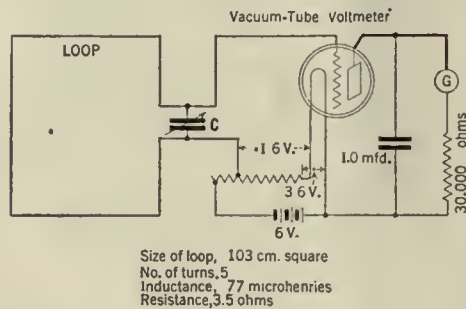

FIG. 1
A practical little summary of work in field intensity determinations is the pamphlet by R. O. Cherry, prepared under the direction of Professor T. H. Laby, on "Signal Strength Measurements of 3LO, Melbourne." The measuring set consisted of a loop, a tuning condenser, and a thermionic voltmeter to measure the potential induced in the loop by the broadcasting station. The voltmeter was an instrument of the Moullin type, manufactured by the Cambridge Instrument Company, using plate rectification to cover a scale of 0-1.5 volts. Cherry's pamphlet does not show the voltmeter circuit, but this has been reproduced in Fig. 1 of the present description, from page 35 of Moullin's "The Theory and Practice of High-Frequency Measurements" (Charles Griffin & Co., Ltd., London), an excellent work which has been reviewed in this magazine. Moullin's Fig. 25, added to Cherry's Fig. 1, gives us our Fig. 1. In the manufactured form of the instrument the plate battery is dispensed with and the 1.6-volt negative grid bias is secured from the 6-volt battery used to light the filament of the tube. Aside from this battery the voltmeter is self-contained. The calibration is stated to be independent of frequency and the galvanometer reads directly in volts, 1.5 volts r. m. s. being full-scale. When the applied potential difference exceeds 0.4 volt, grid current flows at the peak of the positive half cycle, and the instrument draws a slight amount of power, the apparent resistance at full scale being of the order of 0.75 megohms, corresponding to a power absorption of 2.5 microwatts. The voltmeter is used with British valves intended for a 4-5 volt filament potential, which is reduced to 3.5 volts in this case, thereby prolonging the life of the valve and the calibration of the voltmeter, barring accidents, almost indefinitely.
It is easy to see how, according to (6) the field strength, by definition, will equal the received voltage divided by the effective height of the receiver, but the origin of the square root factor may not be clear. Cherry gives no explanation, so it may be added that the expression without the added factor would be true for an open loop picking up a voltage from the transmitting station in question, but in practice it is necessary to tune the loop, as shown in Fig. 1, both in